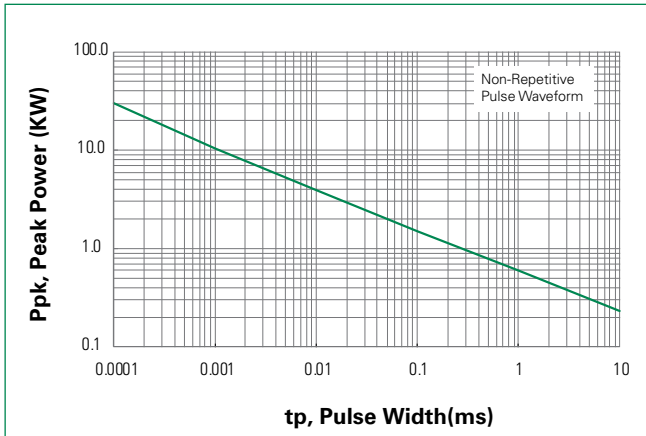
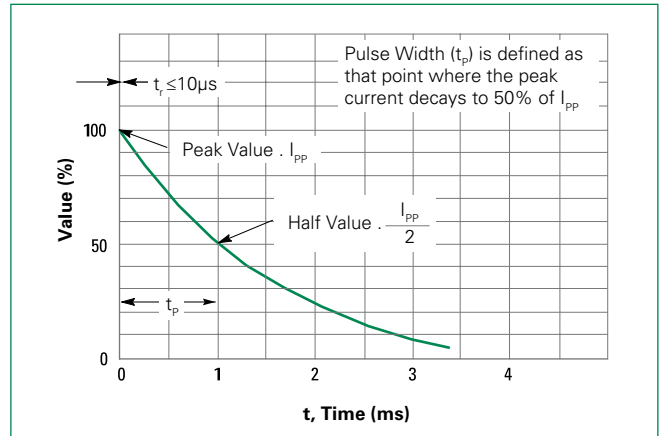

Figure 2.
Figure 3.
8. Surge current waveform per Figure 2 and derate per Figure 3 of the General Data - 600 Watt at the beginning of this group.